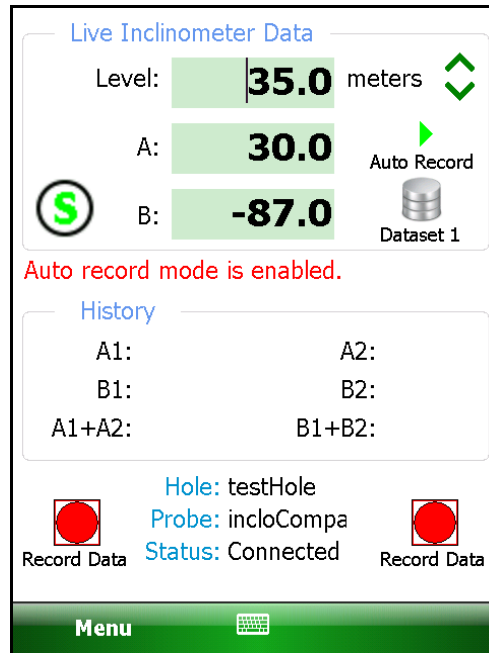

Figure 46 – Auto Record Enabled
If this selection is set to "Enable", upon entry into the "Live Readings" screen, the "Auto Record" feature will be enabled (see Figure 46).
1. Tapping on the "Live Readings" menu item displays the screen shown in Figure 46).